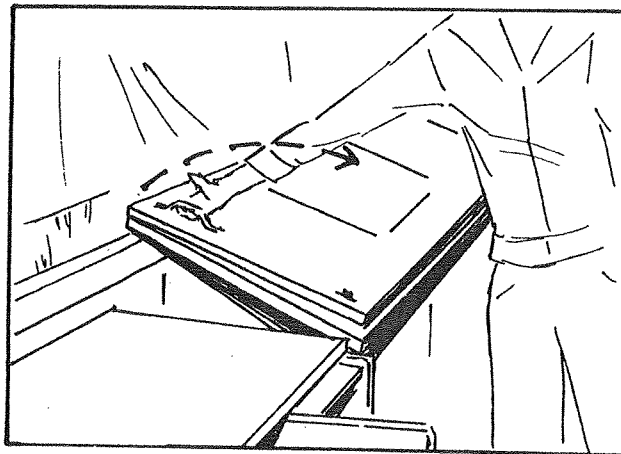
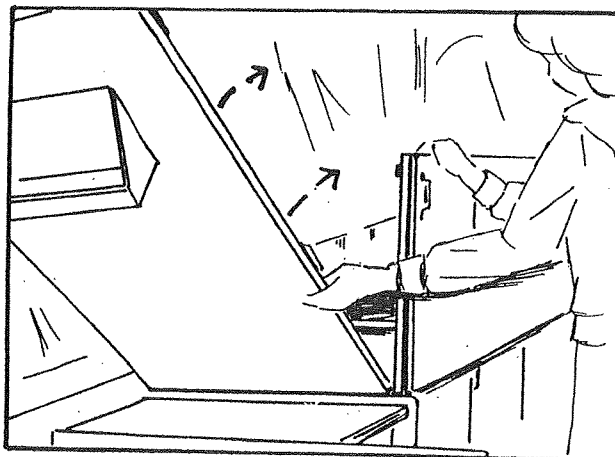
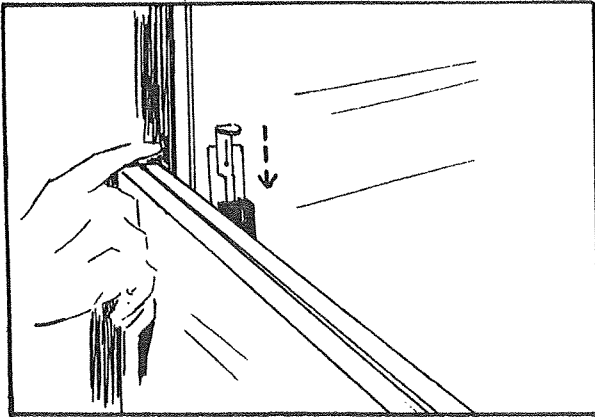

FIGURE 13
FIGURE 14
FIGURE 15
21. Begin this setup by grasping the handle of the interior wall section as shown in Figure 13 and raise to full folded vertical position as shown in Figure 14.
22. While holding the interior folded wall section with your right hand, raise the rear wall section as shown in Figure 14 and secure these two wall assemblies in place by depressing the slider lock retainer to its locked position. See Figure 15.